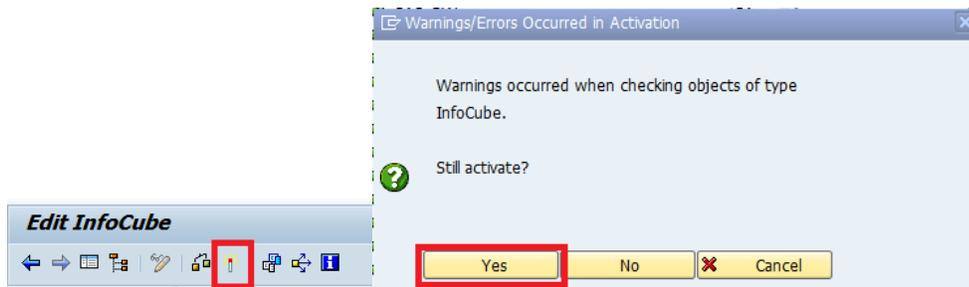

Figure 31 – Save and activate virtual infoprovider
2.8 **Activate virtual infoprovider** - Save and Activate the Virtual Provider by clicking on the activate icon on the ACTIVATE icon as shown in figure 31. Acknowledge any warning messages and proceed with the activation.